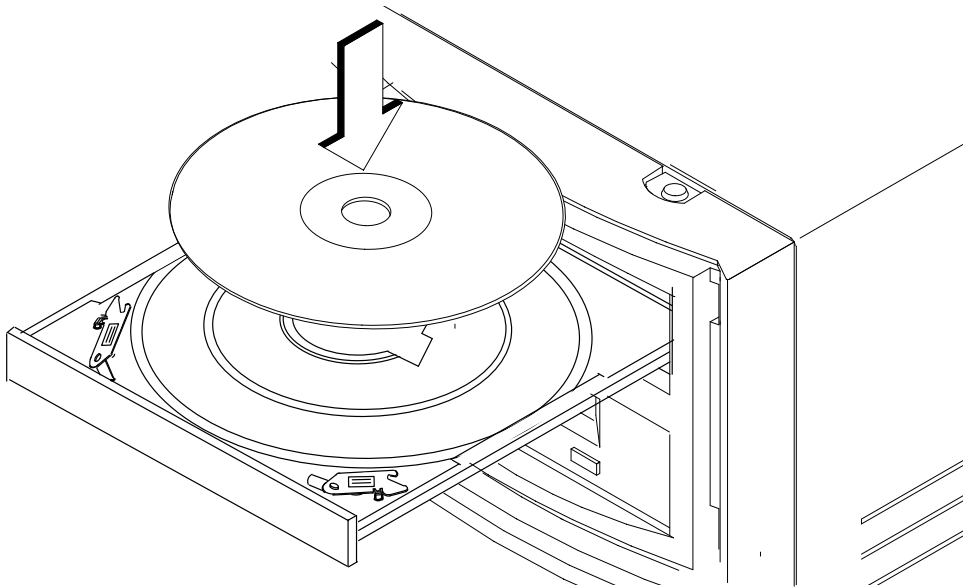

Figure 2-3. Placing the CD-ROM Disc in the Disc Tray (Horizontal Mount)
4. Hold the disc by the edges with the label side up and place it in the Disc Tray as shown in Figure 2-3.